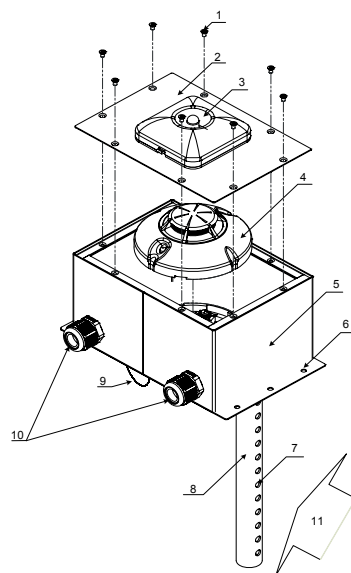

Fig.4
Part of the air flow runs through the opening holes (pos.7, Fig 4) of the inlet tube (pos.8, Fig.4) and passes through the duct smoke detector as reduces its speed and goes out through the outlet tube (pos.9, Fig 4).The mounted mechanical filters stop the large particles from the airflow and thus they protect the sensitive element of the fire detector from dust contamination.
-inlet tube holes (pos.7, Fig.4) are facing the
air flow (pos.11, Fig 4);
4. Mount the device on the air conduit by the six self-tapping screws from the set, and put the duct smoke detector in position so that the inlet tube holes (pos.7, Fig. 4) (poz.8, Fig.4) are upstream (poz.11, Fig.4) the air flow.
5. Unscrew the 8 screws (pos.1, Fig.4) and remove the lid (pos.2, Fig.4) of the body (pos.5, Fig. 4) of the duct smoke detector.
Note: Removing the lid must be made with caution since the Remote indicator (pos.3, Fig.4) is factory built-in together with the fire detector base. Removing the lid provides access to the optical smoke fire detector mounted in the duct smoke detector.
6 Take-off the fire detector (pos.4, Figure 4) from the base.
7. Lead the wires of the fire alarm line (loop) through the input and output nozzles (pos.10, Fig.4) of the duct smoke detector.
(Remote Indicator RI31 (pos.3, Fig.4) is factory built-in with the detector base)
10. Place the lid (position2, Figure 4) of the device and bolt up the screws (pos.1, Figure 4).